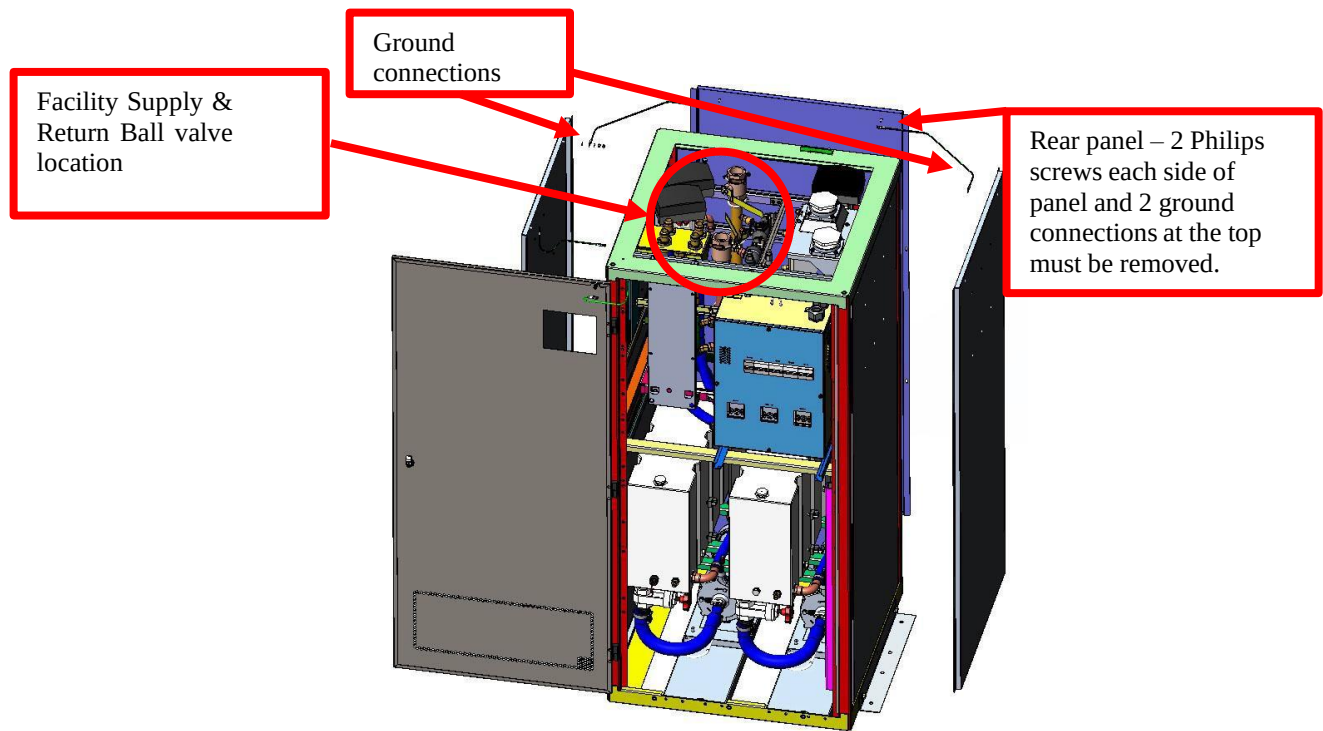

Figure 4
10. Re-install the ground connections on rear panel with retained hardware. Refer to Figure 4 below.